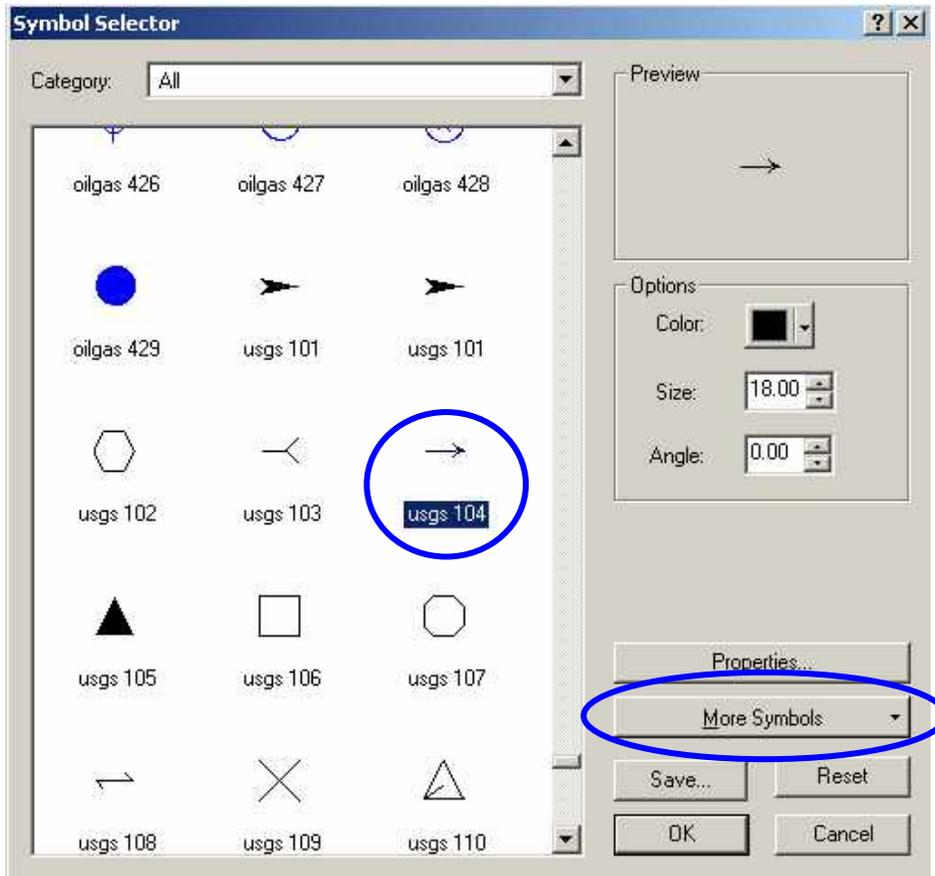

Figure 7. Selecting an appropriate arrow for display from the IGL symbol set.
12. Select a symbol to represent the wind vectors. Under **More Symbols** choose either the **IGL** or **Forestry** symbol sets. The arrows toward the bottom work well in the **IGL** symbol set (Figure 7).